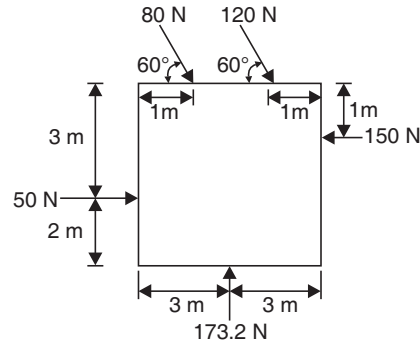

Fig. 2.57
**Example 2.34.** Determine the resultant of the forces acting on the board as shown in Fig. 2.57.